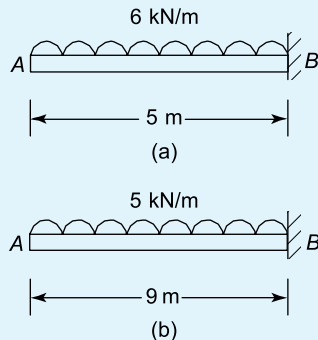

Figure 7.44 Cantilevers
3. Figure 7.44(a)
4. Figure 7.44(b)